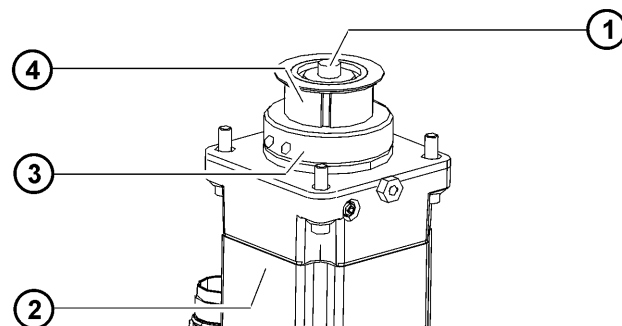

Fig. 11-22: Motor with toothed belt pinion
6. Remove the Allen screw (>>> Fig. 11-22) and take off the disc.